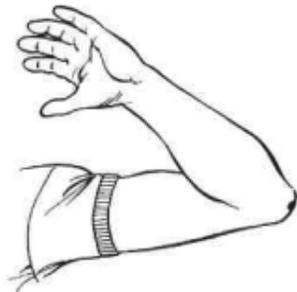

Figure 1
2. Instruct the subjects to bare an arm, and bend the elbow. The designers should mark a dot at the most prominent spot on the elbow (Figure 1).